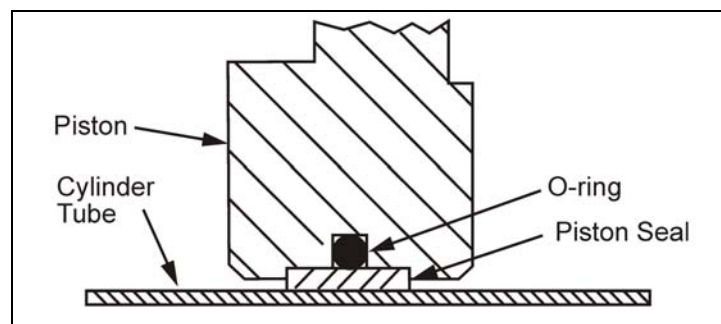

Figure 1—Piston Seal Detail
9. Remove the piston seal (C11) and o-ring (C12) from the piston (C10). Clean the grooves in the piston. See Figure 1.